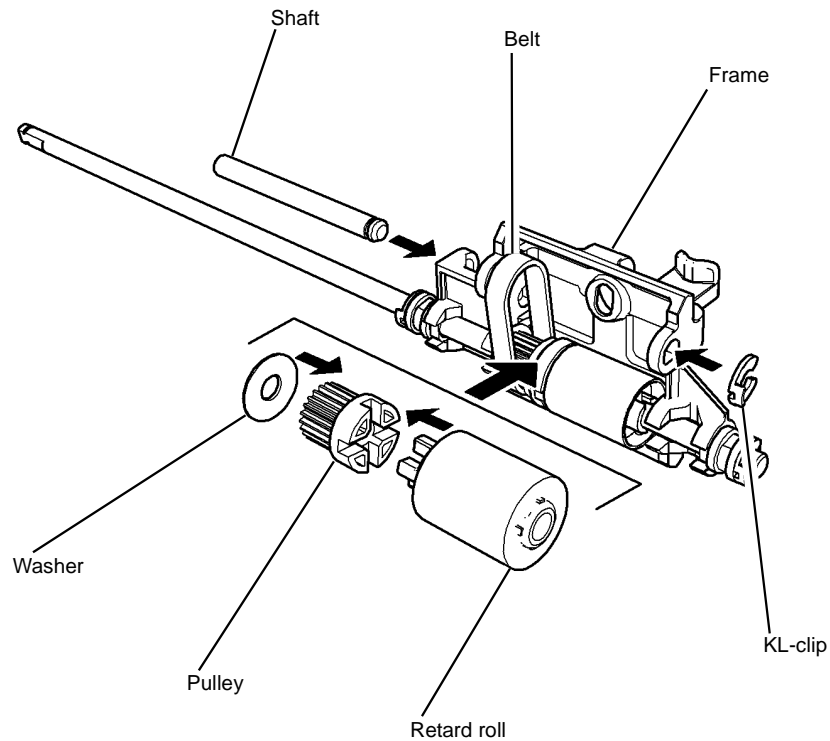

Figure 8 Exploded view of the retard assembly
2. If necessary refer to Figure 8 for the correct assembly of the retard roll components.